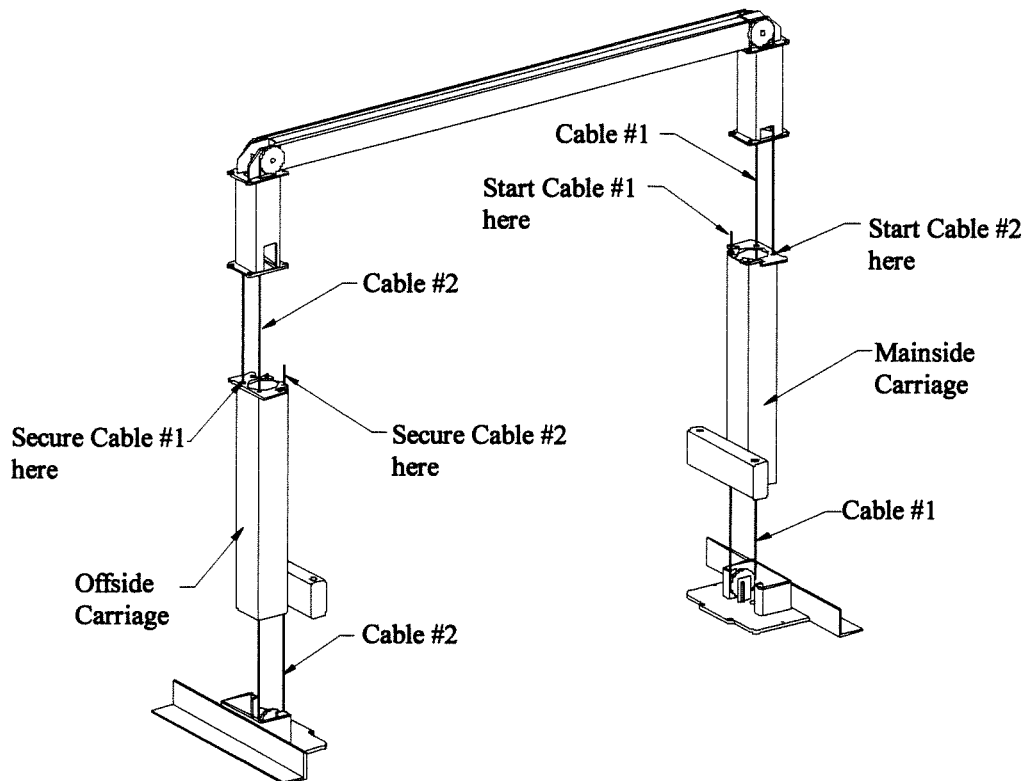

Figure 7
15. Refer to Figure 7 on the following page. Be sure that the carriages are both the same height above the leg bases. Attach a 3/4" SAE washer and a 3/4" nylon insert nut to one end of both cables. Start with the mainside leg for the cross cable installation. Start at the right rear hole of the carriage top. Run the cable end up thru the upright and over the top pulleys, down thru the upright on the offside, down thru the left rear hole of the offside carriage, around the offside leg pulley, and up thru the front left hole of the carriage top. Secure the cable end with a 3/4" SAE washer and nylon insert nut. Do not tighten the cable at this time.